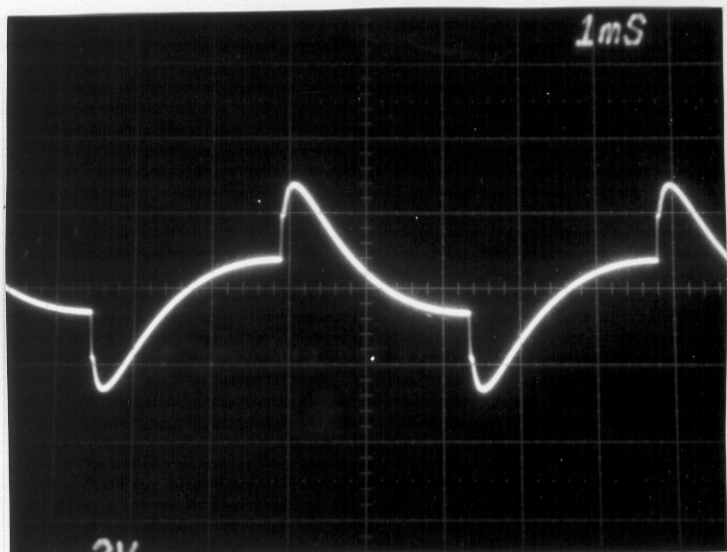
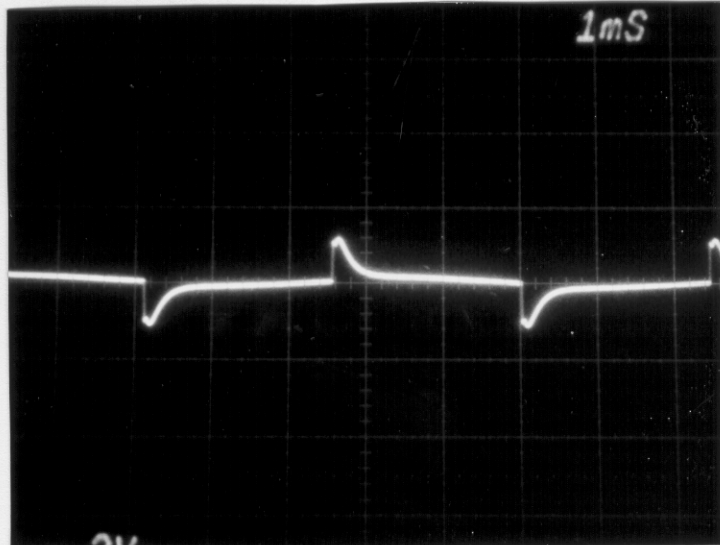

Fig. 7 Low-mid on 10
Fig. 8 Low-mid on 0
- C. LO-MID ON 10 = FIG. 7; LO-MID ON 0 = FIG. 8.